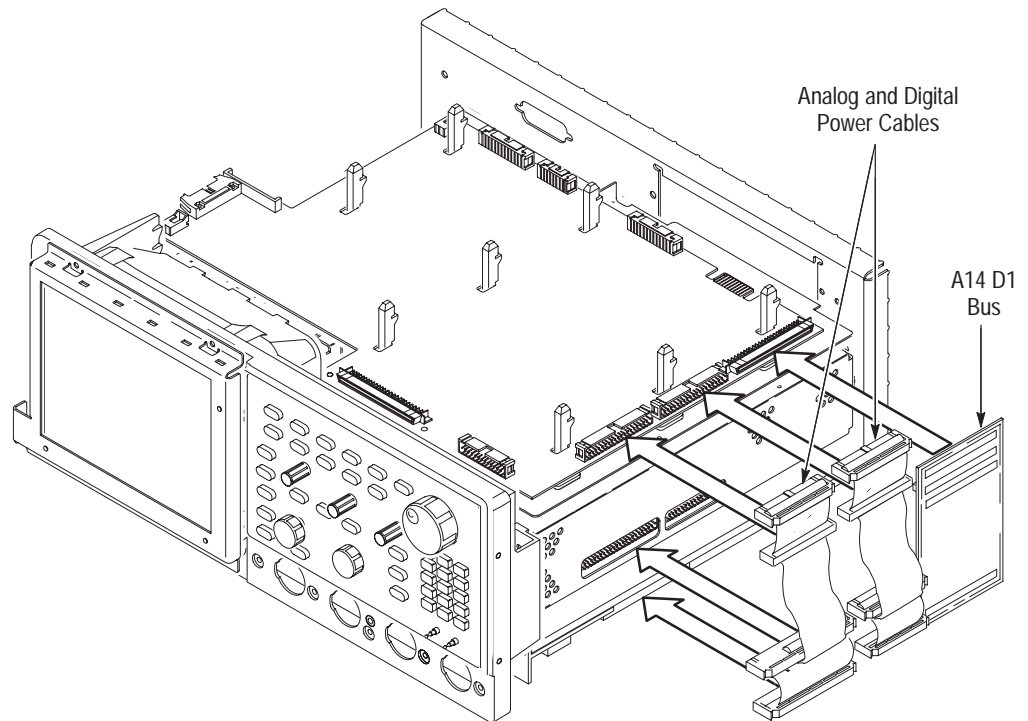

Figure 6–11: A14 D1 bus and analog-power and digital-power cables removal
1. *Assemble equipment and locate modules to be removed:* Have handy a screwdriver with a size T-15 Torx® tip (Items 1 and 2). Find the modules to be removed in the locator diagram *Outer-Chassis Modules*, Figure 6–2, page 6–13.